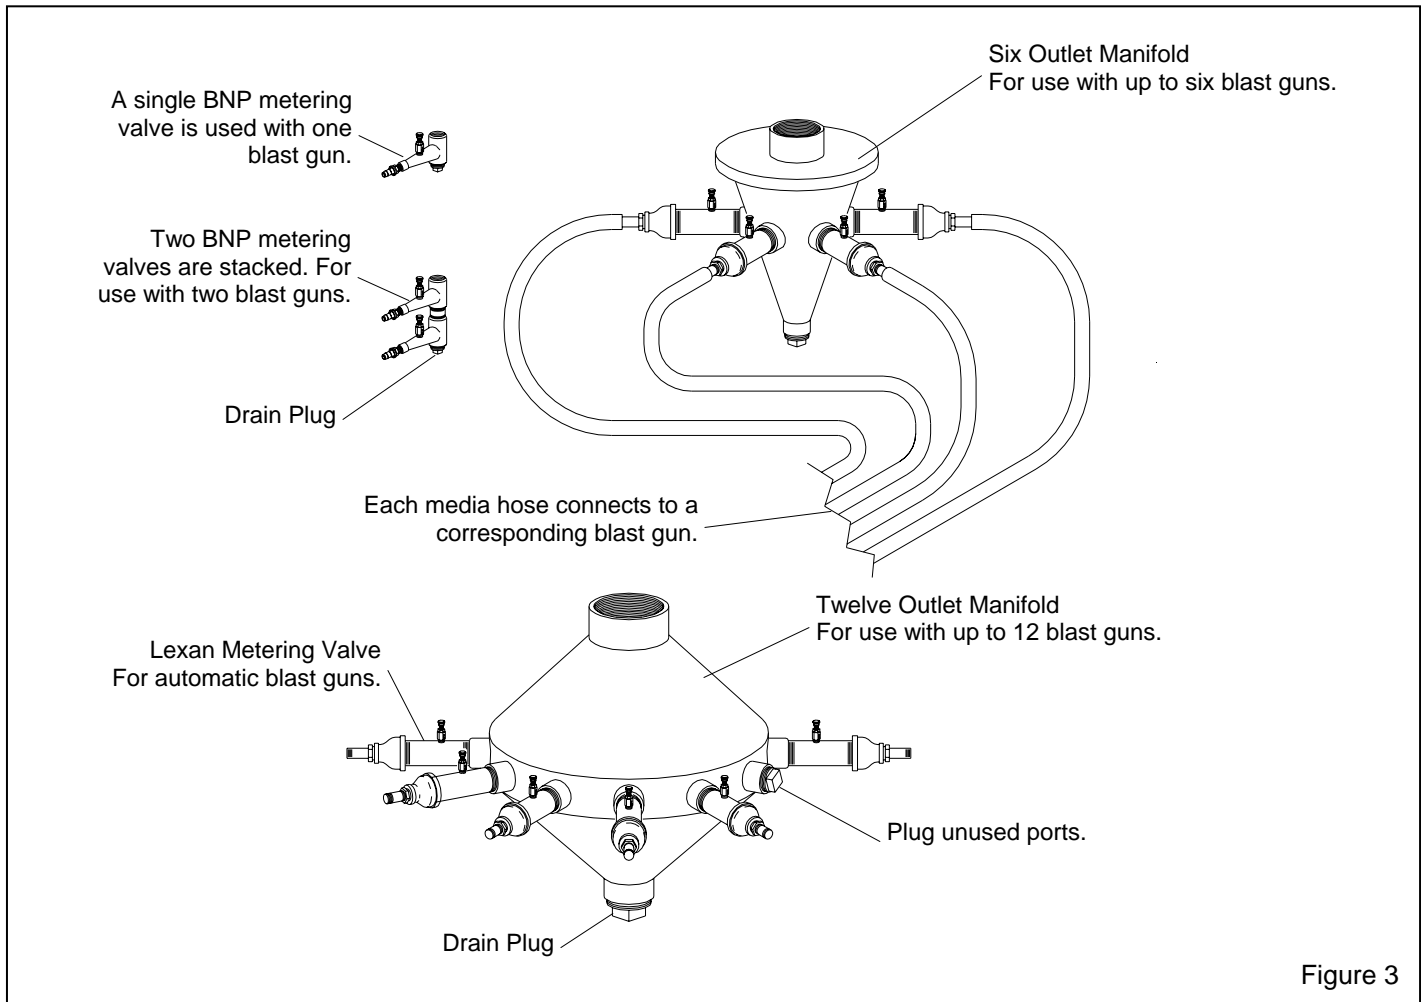

Figure 3
2.4.1 The type of metering valve feed system is determined by the number of blast guns. The illustration in Figure 3 shows several systems. When one blast gun is used, the metering valve is attached to the pipe nipple located on the bottom of the reclaimer hopper. If two guns are used, the first metering valve is installed as stated above, and the second valve is installed under it as shown. When more than two blast guns are used, a media manifold is attached to the bottom of the reclaimer, using the same amount of valves as blast guns. Marking each metering valve, hose and blast gun with a corresponding number makes adjustments and troubleshooting easier.